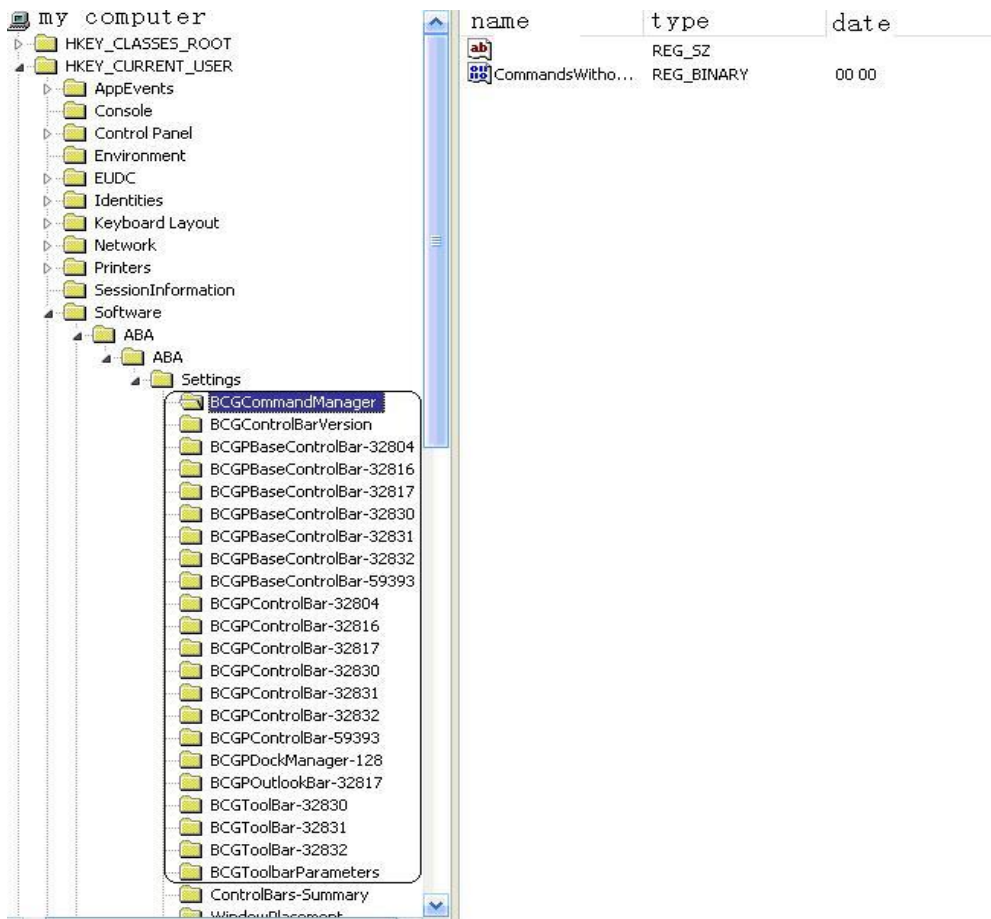

Figure 5-44
- 3, WINDOWS operating the registry order "Regedit" as following figure 5-44, delete all the BCGCO... items, see black box tips.